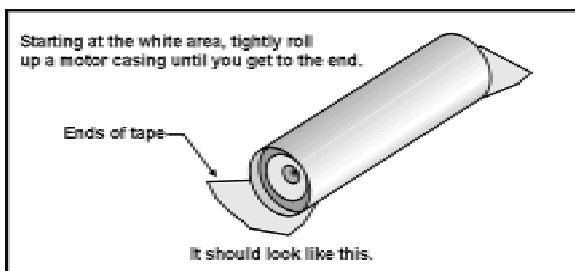

Figure 5
- Using a 13mm motor casing (A10-3T, for example), and starting from the **WHITE** end of the Engine Tube Pattern, begin to tightly roll the motor casing in the Engine Tube Pattern. As you roll the motor casing up, the first piece of tape will stick itself to the inside of the forming tube, preventing glue from oozing onto the motor casing. Continue rolling for one more full revolution, resulting in the second piece of tape securing the end of the Engine Tube pattern in place while drying. The final formed tube should look like that shown in **Figure 5**. Check to make sure that no glue oozed onto the motor casing then set aside to dry.